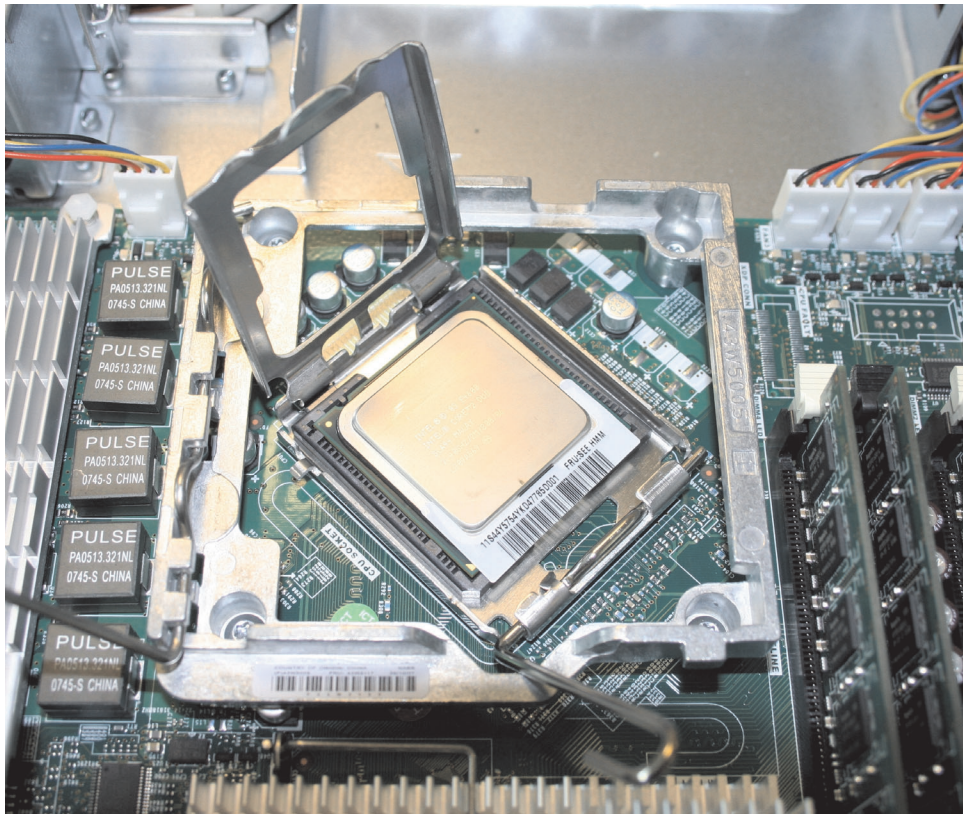

Figure 208. The SAN Volume Controller 2145-8A4 microprocessor bracket frame fully opened
2. Orient the microprocessor retention module as shown in Figure 208 on page 224.